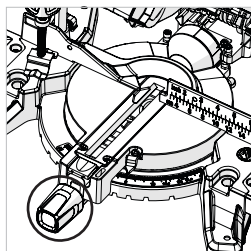

Fig. 15
- Loosen the mitre angle locking handle. **(Fig.15)**